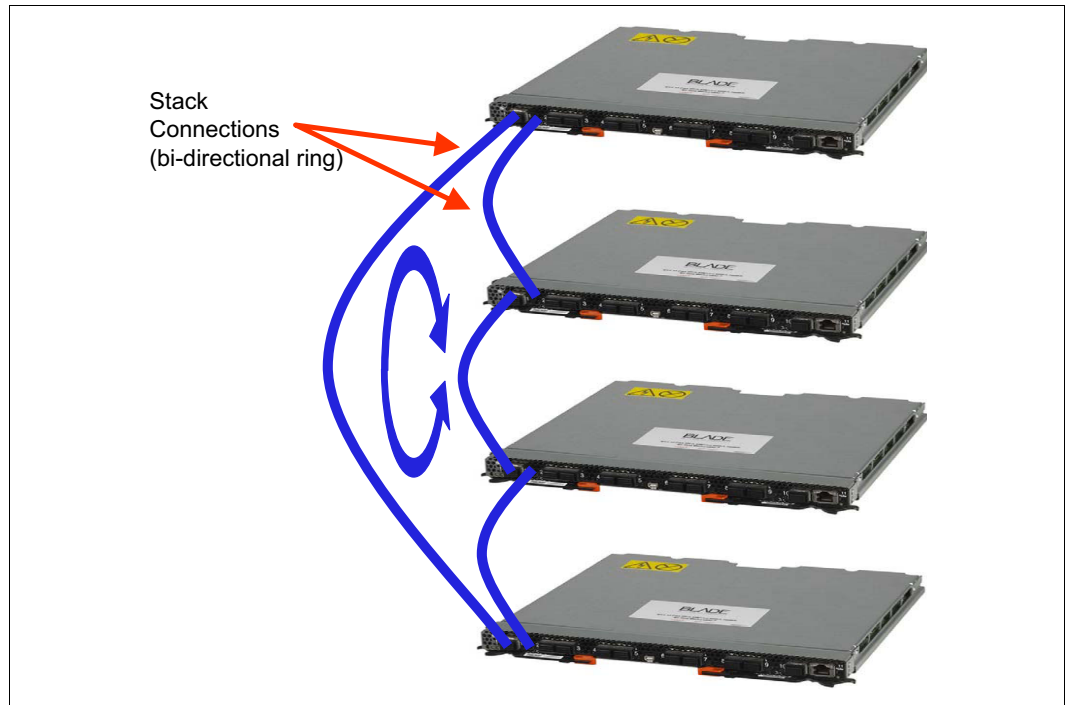

Figure 4-4 IBM Switch stacking bidirectional topology
- ▶ The preferred stacking topology is a bidirectional ring (see Figure 4-4 on page 435). To achieve this topology, two external 10 Gb Ethernet ports on each switch must be reserved for stacking. By default, the first two 10 Gb Ethernet ports are used.